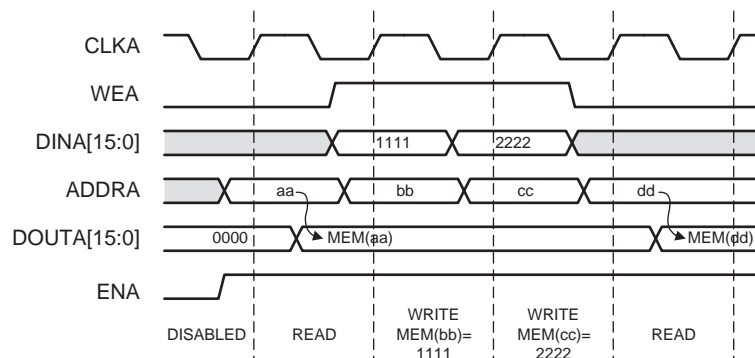

Figure 28: No Change Mode Example
- No Change Mode:** In NO_CHANGE mode, the output latches remain unchanged during a Write operation. As shown in Figure 28, the data output is still the previous Read data and is unaffected by a Write operation on the same port.